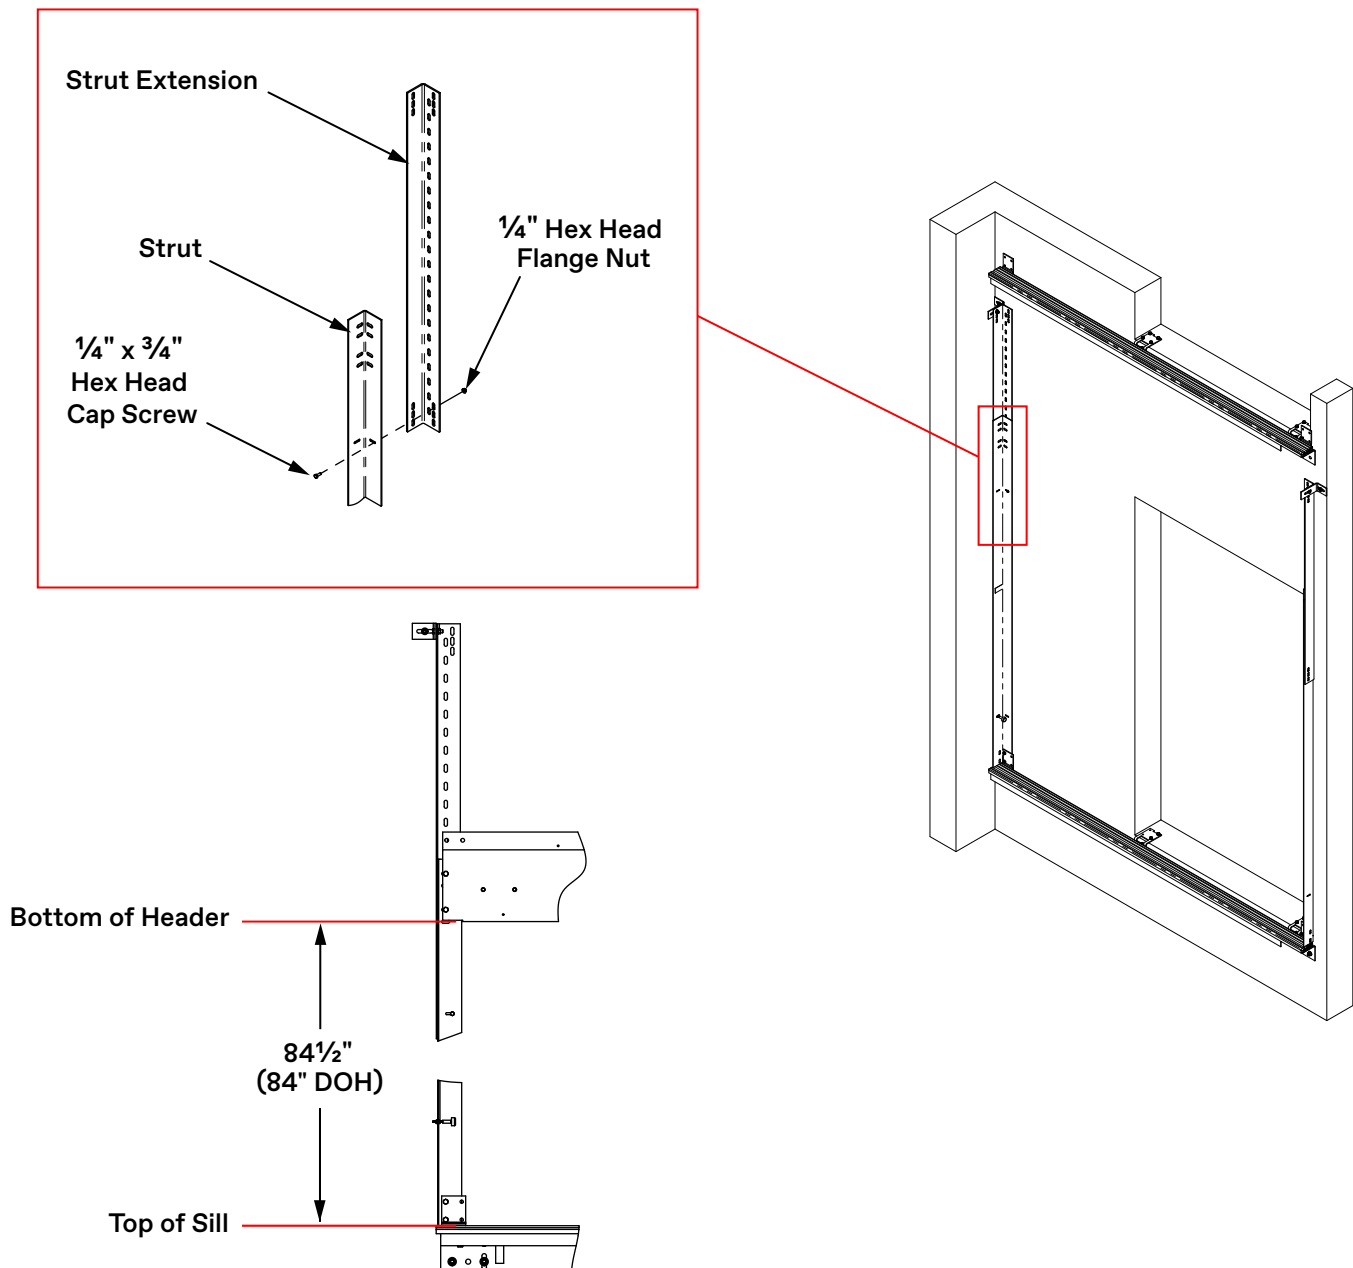

Figure 5 - Mount Header on the Struts
1. From the sill, measure the header height given in Figure 5, and mark the strut. Repeat for the other side.